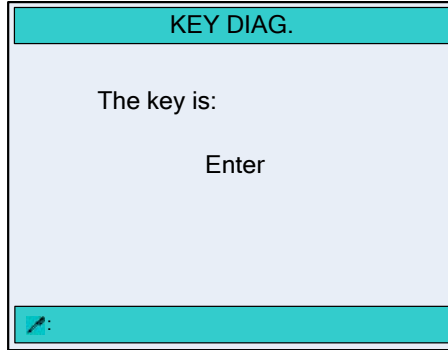

Figure 4-4 The **KEY DIAG.** page
On the **DIAGNOSE** page, move the cursor to parameter **3.KEY DIAG.** (or press the number key 3), and press to enter the **KEY DIAG.** page, as shown in Figure 4-4.